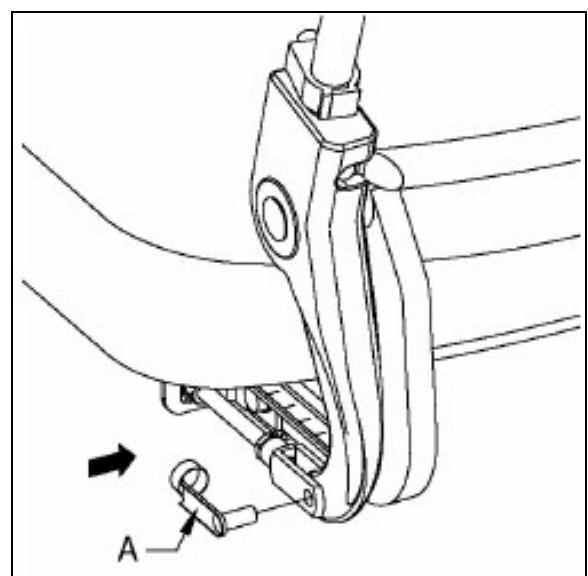

Figure 3.15
1. Flip the lock clip (A in fig. 3.15) off the adjusting bar.
1. Push the catch (A in fig. 3.15) backward to unlock the leg rest.
2. Swing the legrest (B) outward.